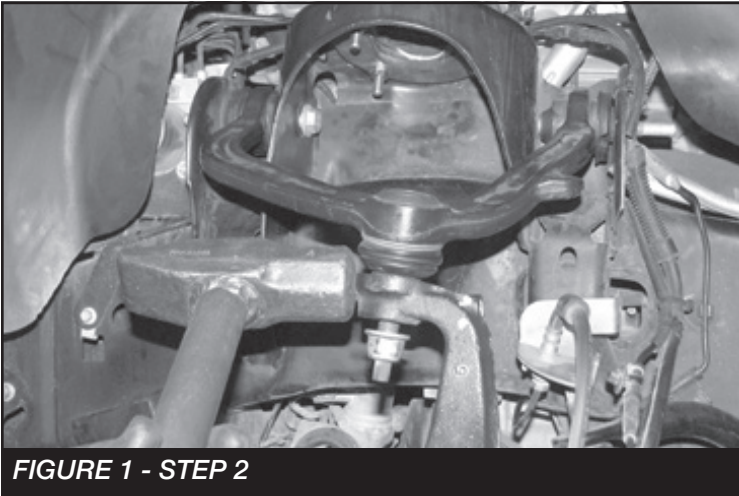

FIGURE 1 - STEP 2
2. Starting on the drivers side remove the upper ball joint nut. Disconnect the upper ball joint from the knuckle by striking the knuckle with a large hammer next to the upper ball joint on the knuckle to dislodge the ball joint. Use care not to hit the ball joint when removing. **NOTE: If equipped with electronic ride control, detach the adjusting rod from the factory control arm bracket. SEE FIGURE 1**